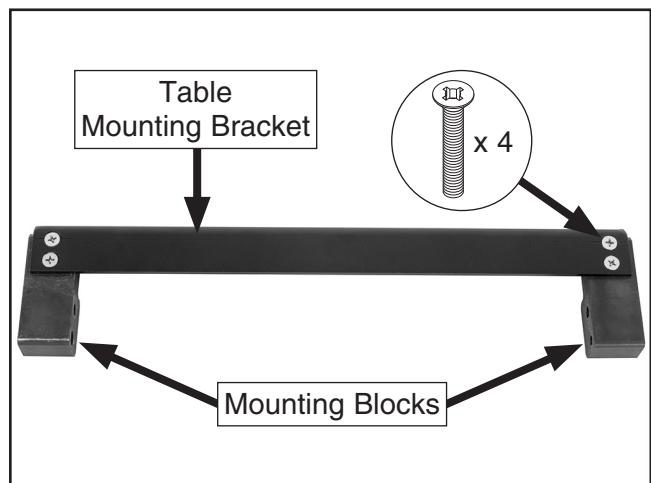

Figure 21. Table mounting blocks attached to bracket.
- 20.** Attach (1) right and (1) left table mounting block to (1) table mounting bracket with (4) M8-1.25 x 25 flat head screws (see **Figure 21**).